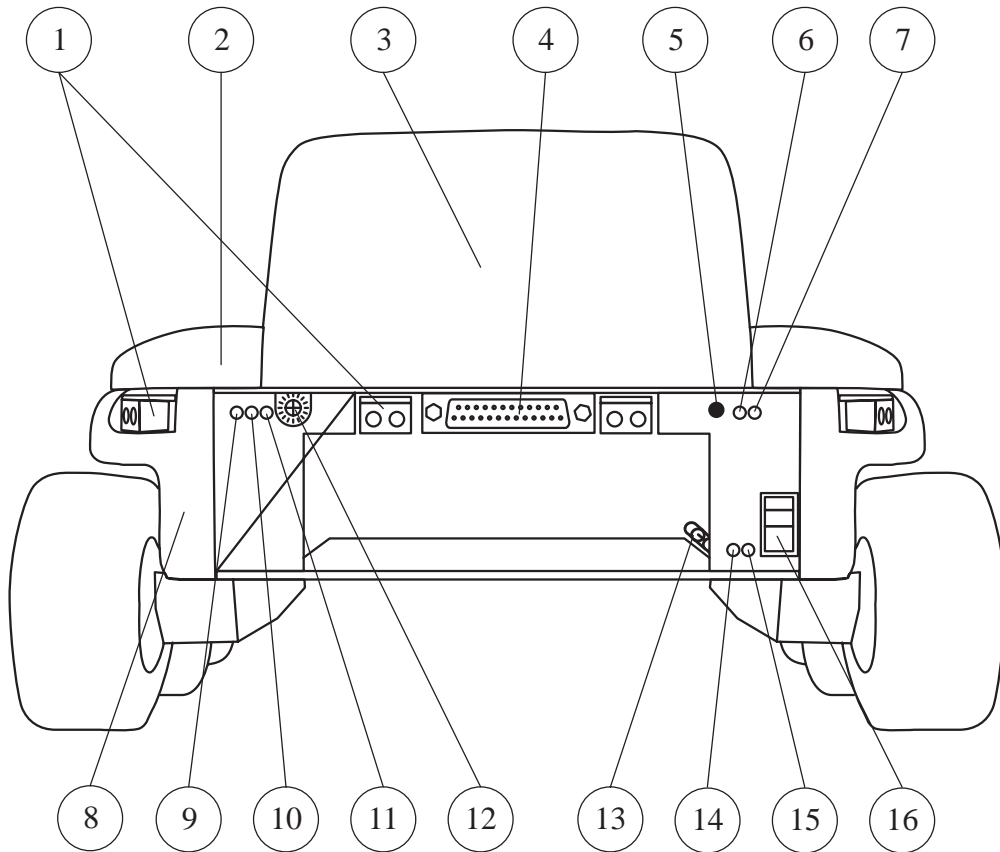
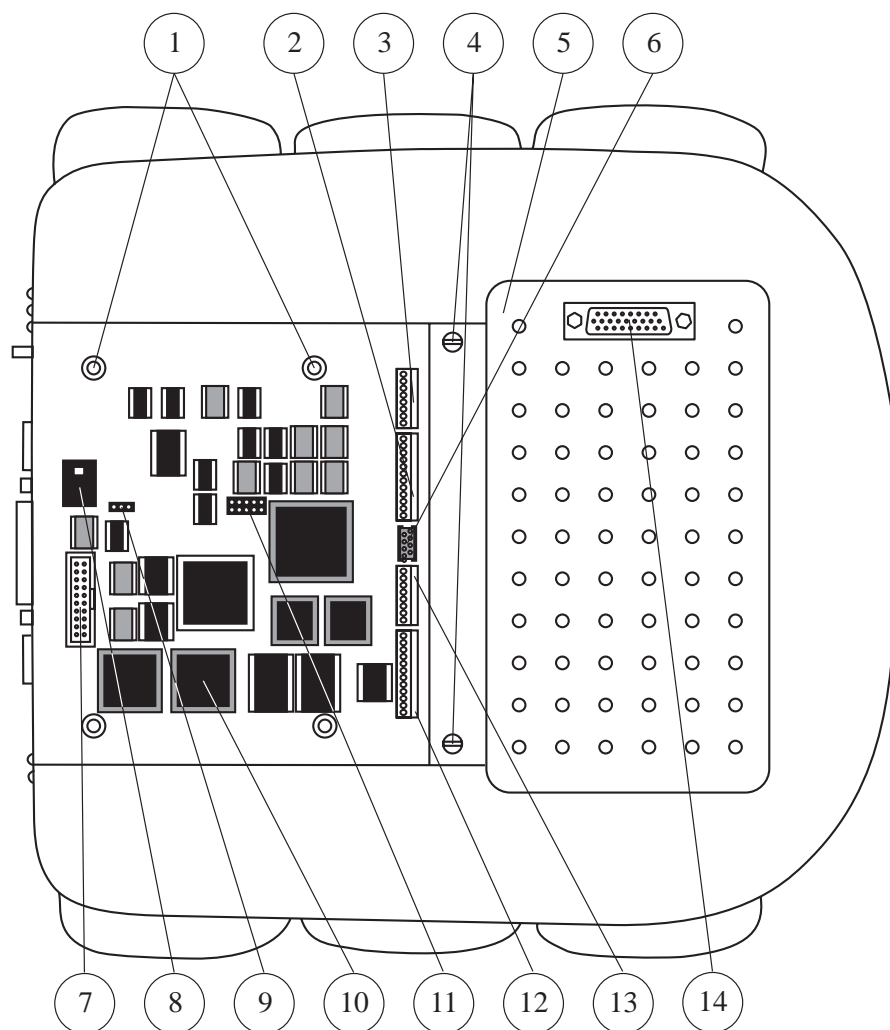
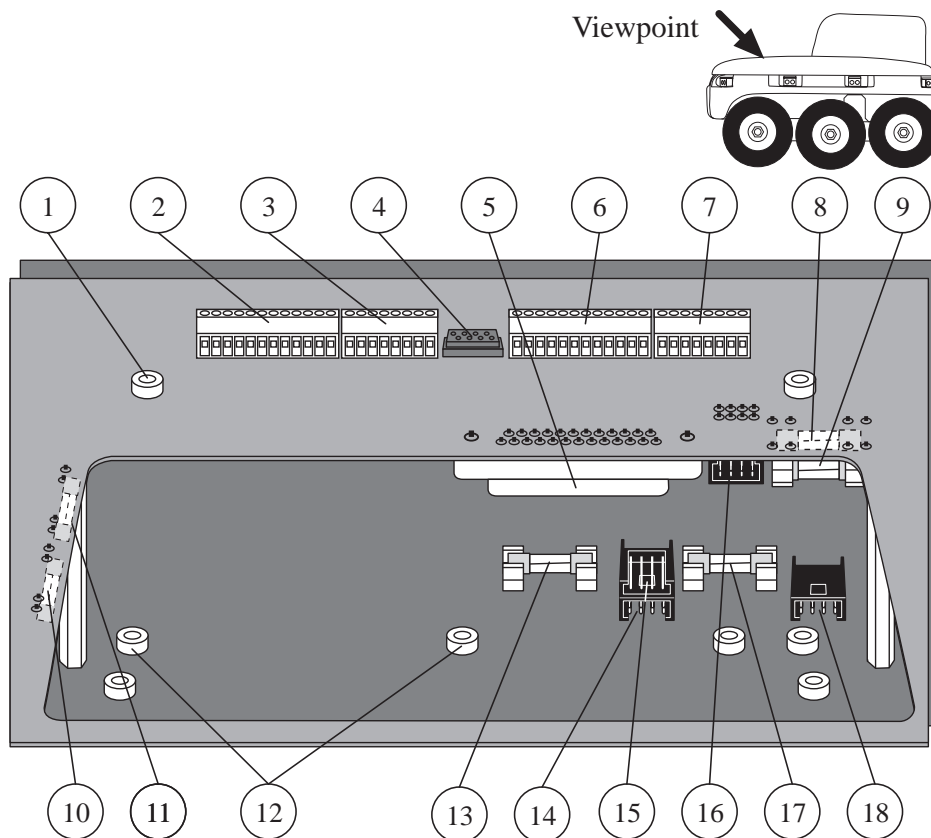
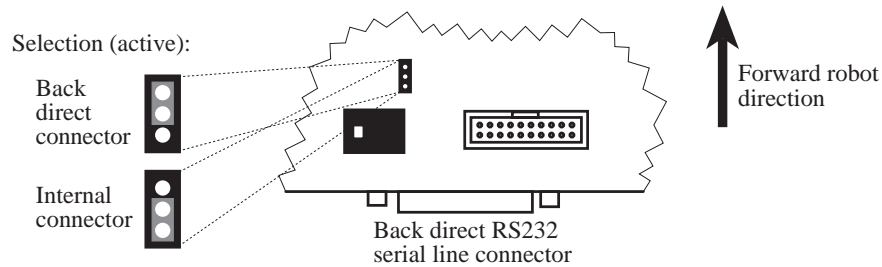

Figure 2: Back view and location of some parts.
Figure 3: Top view (cover and protection plate removed) with indication of some parts
Figure 4: Inside view (mechanical extension support plate removed) with indication of some parts
Figure 5: Jumper position for the selection of the active RS232 serial connector.
The ROM installed on your robot has an important library of software modules for the real time control of the Koala robot. Part of these modules (building the BIOS) ensure the basic functionalities of the Koala robot, like motor control, sensors scanning etc. Another part of these modules ensure the interface with the user through the serial line. Depending on your use of the robot (remote control, downloading, test, demo etc.) you can select a specific module by setting the correspondent running mode. The “running mode selector” (point 12 of figure 2) allows the selection of the most important running modes in several configurations. You have the choice between the following configurations:
There are two main serial line connectors on the Koala robot: the external direct RS232 serial line connector (item 4 of figure 2) and the internal RS232 serial line connector (item 5 of figure 4). To avoid conflicts, only one of these two connectors can be active and be connected to the CPU. The choice of the connection is made using the selection jumper showed in figure 3 under the point 9, following the rule illustrated in figure 5.
Two LEDs (items 6 and 7 of figure 2) show the activity of the transmit and receive RS232 serial channels of the Koala CPU. This activity will correspond to the activity of the connector selected as indicated in figure 5. If the activity that you observe on these lines do not correspond to the activity of your host computer (when you send data, the red receive LED do not show any activity, for instance) then the problem could be at the level of your computer, the cable or the jumper illustrated in figure 5.
The transmit LED (green, items 6 of figure 2) indicates the activity of the channel transporting data from the Koala robot to the host PC. The receive LED (red, items 7 of figure 2) indicates the activity of the channel transporting data from the host PC to the Koala robot.